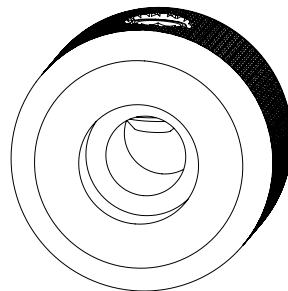

Fig 2a.
2. *Install the **Knob**:* Screw the **Set Screw** part-way into the **Knob** (far enough that you can see it on the inside of the **Knob** hole. See Fig 2a.), then slide the **Knob** onto the **Encoder** shaft with the set screw aligned to the flat part of the shaft. (Fig 2b.) Push it on as far as it will go. It will not touch the **Housing**, but should be pretty close. Use the larger **Allen Wrench** to tighten the **Set Screw** down (this is the only time you'll need the larger **Allen Wrench**). When tightening, hold the **Knob**, *not* the **Housing** (this would put a lot of stress on the **Encoder**). Verify that the **Knob** can turn and that you can feel it click when you push it in.